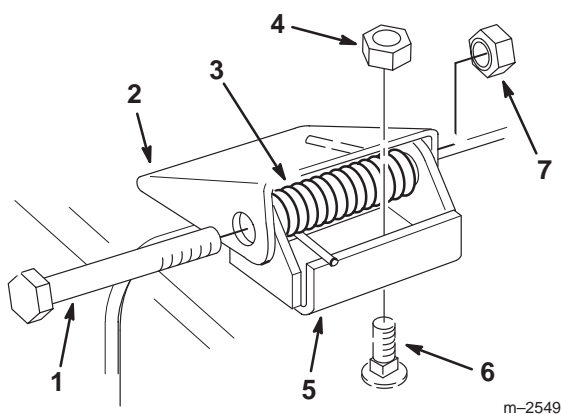

Figure 30
1. Remove the locknuts, bolts and springs holding the deflector mounts to the pivot brackets (Fig. 30).
2. If the pivot brackets need to be replaced, remove the carriage bolts and cone locknuts holding the old brackets to the top of the discharge opening, then install the replacement pivot brackets. Make sure the carriage bolt heads are on the inside of the cutting unit (Fig. 30).
3. Install the deflector mounts onto the pivot brackets with the bolts, springs and locknuts. Make sure the straight ends of the springs are positioned between the deflector mounts and the grass deflector (Fig. 30).
4. Tighten the locknuts until they contact the pivot brackets (Fig. 30).